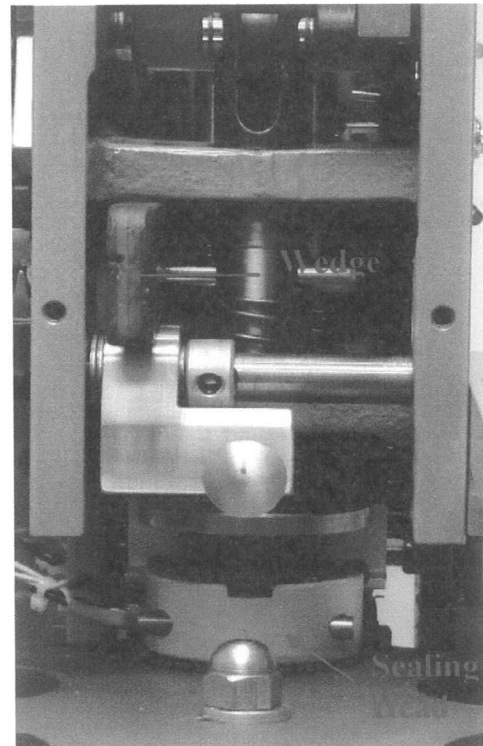

Fig. 14 – Wedge Installed
8. Insert the wedge between the upper cross brace and the dowel pin. Going through the sealing head drive shaft. This will force the sealing head down toward the base of the unit (see Fig. 14).